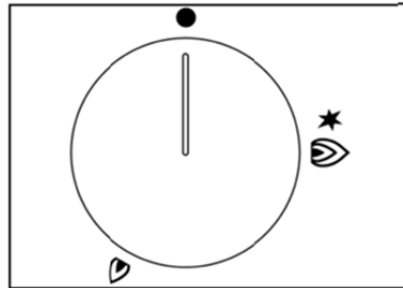

Fig. 18
- **Manual lighting (it is always possible even when the power is cut off):** Turn the control knob that corresponds to the burner selected anticlockwise, setting it to the MAXIMUM position at the etched star (large flame on the control knob (Fig. 18) and hold a lit match to the burner.
- **Electric ignition:** Turn the knob that corresponds to the burner selected anticlockwise, setting it to the MAXIMUM position (large flame on the control knob (Fig. 18) and keep on pressing the knob in correspondence with the ignition symbol marked with a star and release it as soon as the burner has ignited.
- When the liquid is boiling turn the knob to the MINIMUM position (small flame Fig. 18).